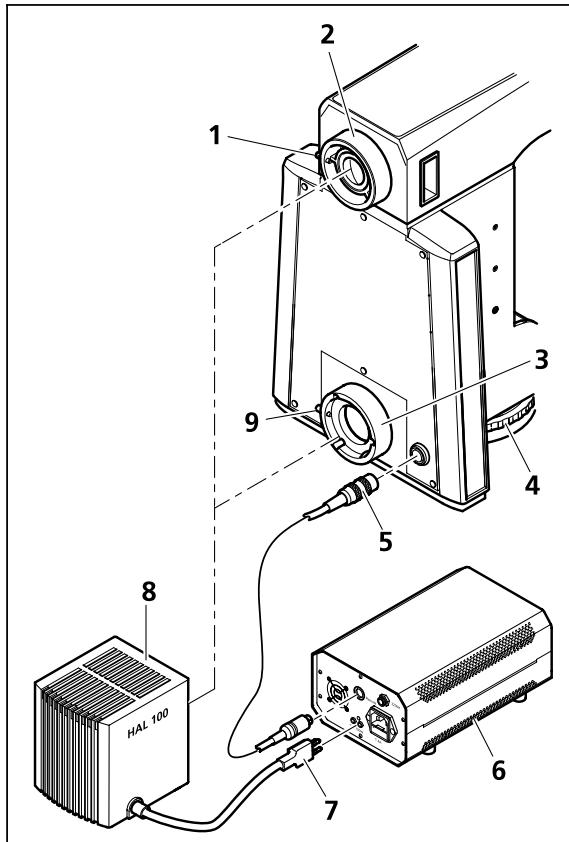

Fig. 3-23 Mounting the halogen lamp HAL 100
- Insert the lamp case (Fig. 3-23/8) with the dovetail ring into the connector (Fig. 3-23/2 and Fig. 3-23/3). Now fixate it by tightening the clamping screw (Fig. 3-23/1 or Fig. 3-23/9) with the ball head screwdriver SW 3.
- Insert the 3-pin lamp plug (Fig. 3-23/7) into the back of the external power supply (Fig. 3-23/6).
When mounting HAL 100 to the lower stand part for HAL 100 illumination, it is necessary to use an additional control cord (Fig. 3-23/5) for the light intensity (see chapter 3.2.2). The light intensity of HAL 100 can then be adjusted with the control wheel (Fig. 3-23/4).
- After loosening the clamping screw (Fig. 3-23/1 or Fig. 3-23/7), remove the ready-to-operate halogen lamp (Fig. 3-24/2) from the microscope stand.